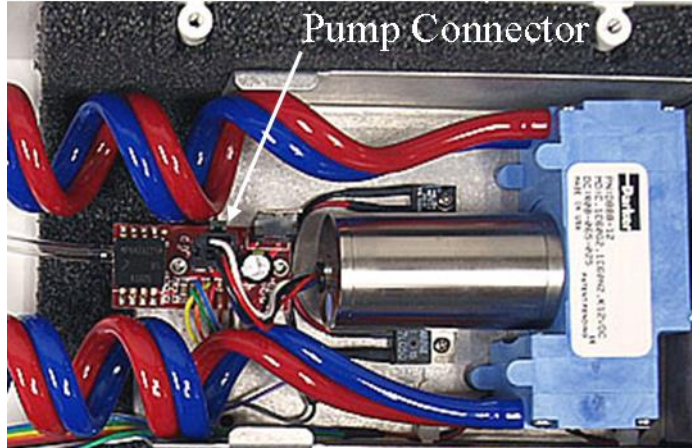

FIGURE J-4. Location of pump connector in AP200 pump electronics
4. Remove pump connector from the pump electronics (FIGURE J-4).
3. Reattach the pump connector to the pump electronics (FIGURE J-4).